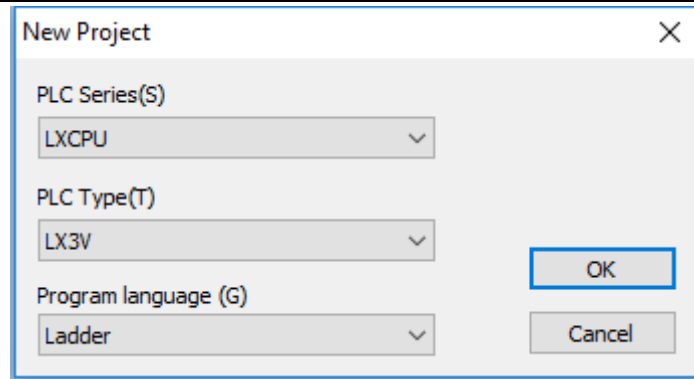

Figure 3-2
- 3) Set the parameters for new project as the Figure 3-2 shows, using LX3V as an example, and please click [OK] to open the main screen.